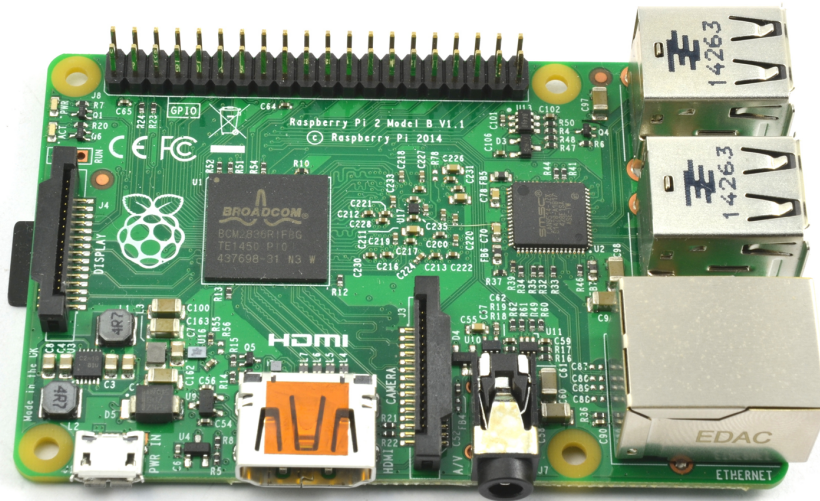

Figure 1-1 A Raspberry Pi 2
If you are new to electronics, but comfortable using computers, then the Raspberry Pi is going to be the more familiar device. The Raspberry Pi (Figure 1-1) really is a very small version of a regular computer running Linux. It has USB ports for you to attach a keyboard and mouse as well as HDMI video output to connect to a monitor or TV and audio output.
- The Raspberry Pi has a double row of general-purpose input/output (GPIO) pins that allow you to connect electronics directly to it (the pins can be seen in the upper-left part of Figure 1-1. From these pins, you can control LEDs, displays, motors, and all the different types of output devices that you will work with later in this book.